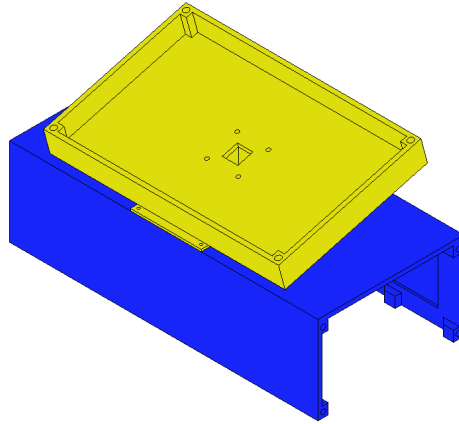

Figure 36: *Touchscreen case* attached to the *touchscreen support*.
6. Identify the four (4) holes on the top face of the *touchscreen case* element. These holes are intended for M3 inserts. Heat the four (4) M3 inserts with either a heat gun or a soldering iron. Place the heated inserts in the aforementioned holes. Allow for the inserts to cool down before proceeding. Attach the *touchscreen case* to the angled face of the *touchscreen support* using four (4) M3 screws. The assembly is shown on figure 36.